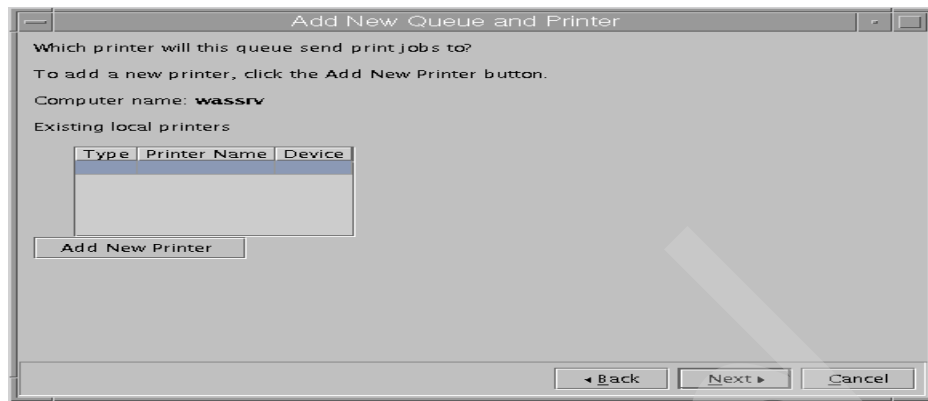

Figure 26. Selecting the existing printer
5. The existing local printers information will be displayed, as shown in Figure 26 on page 210. In this example, there is no information, since this is the first time to add new printer. Select **Add New Printer**.